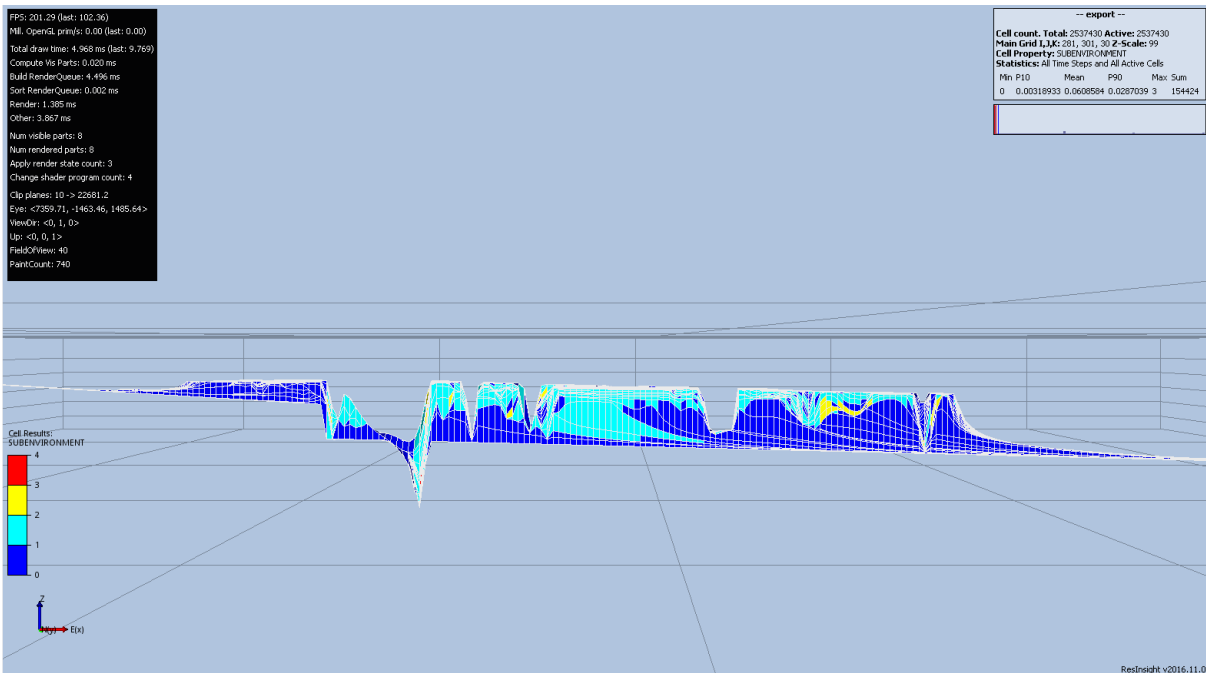

Figure 3.39 A cross-section view of sub environments in ResInsight. The colorbar: 0:background, 1:Delta top, 2: Delta front, 3: Prodelta.
4. Make cross-sectional views of the modelling results (Figure 3.39).